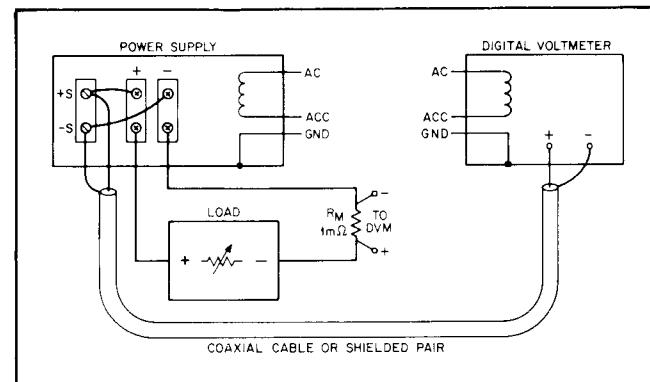

Figure 5-2. Basic Test Setup
- a. Connect test setup shown in Figure 5-2. Operate the load in constant resistance mode (Amps/Volt) with resistance initially set to maximum.
- a. Connect test setup shown in Figure 5-2.
- Connect load and digital voltmeter as illustrated in Figure 5-2.
- Connect load and digital voltmeter (DVM) as illustrated in Figure 5-2.